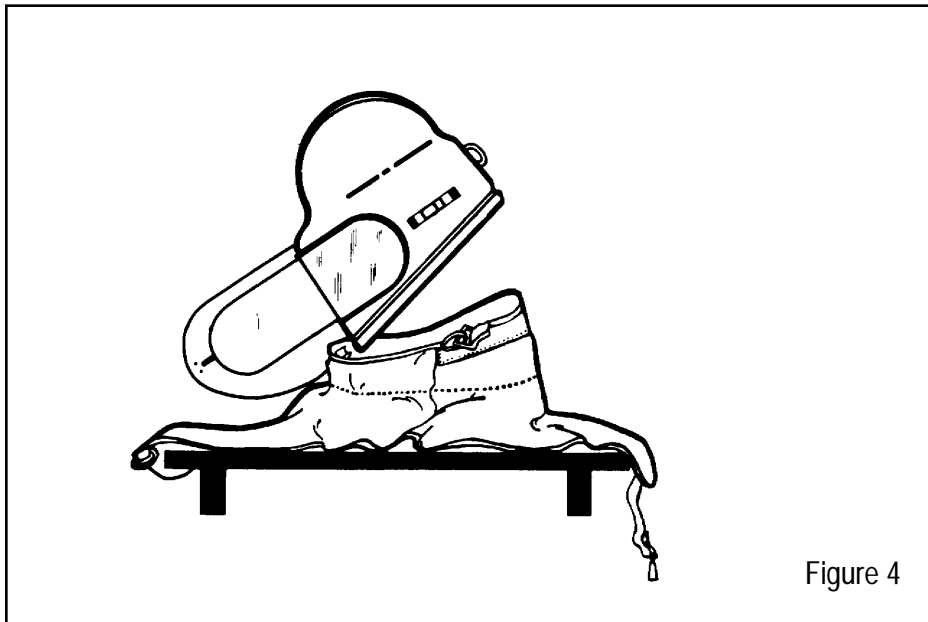

Figure 4
2. Remove cape from helmet by lifting up on over-center clamp and disengaging cape from helmet groove (Figure 4).
1. Place cape on table or workbench. (Figure 4)
3. Line up the hook-shaped catch on the cape with the front center of the helmet (Figure 4). Catch should firmly engage under bottom front edge of helmet.